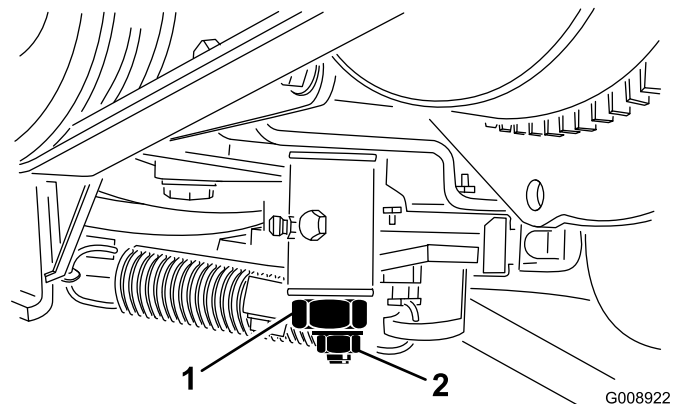

Figure 48
2. Loosen the throttle cable connector on the injection pump lever arm (Figure 48).